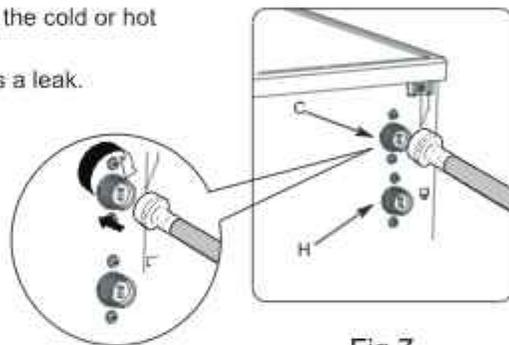

Fig.7
3. Secure both brackets to the floor using a drill and 2 screws each (Fig.7).